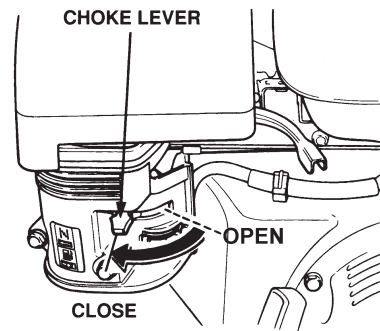

Figure 21. Choke Lever
3. Place the **Choke Lever** (Figure 21) in the **CLOSED** position.
6. If the engine has started, slowly return the choke lever (Figure 21) to the **OPEN** position. If the engine has not started repeat steps 1 through 5.